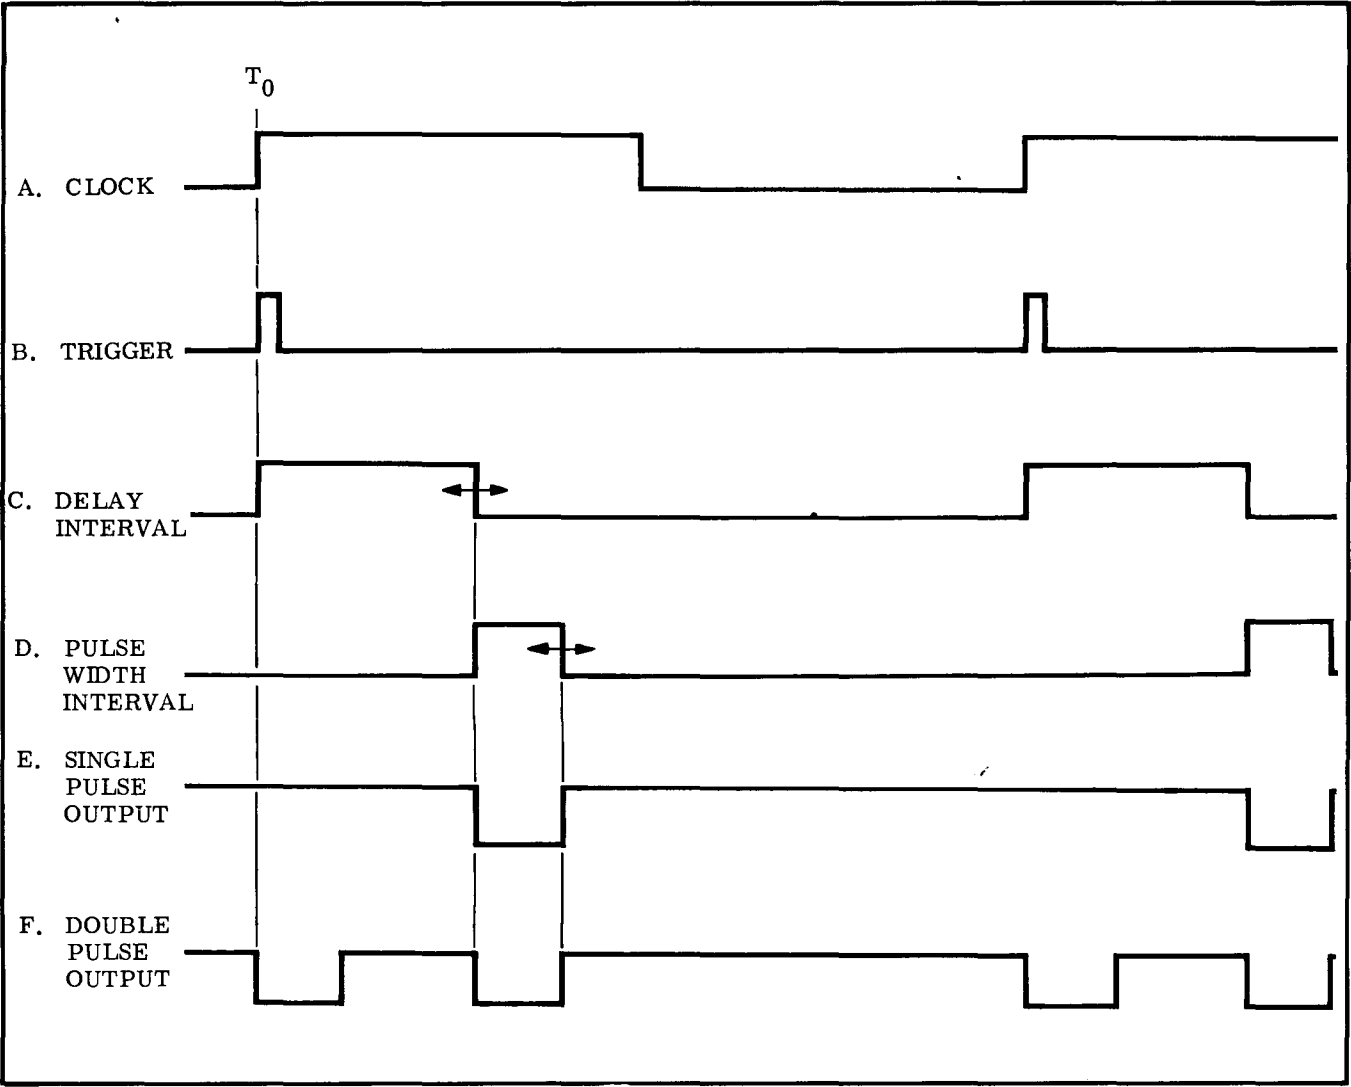

Fig. 3-1 Timing Logic
a. The timing logic in the Model 139B is determined by three multivibrators; the clock multivibrator, the delay multivibrator, and the width multivibrator. Each of the three multivibrators have independently variable periods determined by panel-mounted controls. The relationship of the three multivibrators is illustrated by waveforms A, C, and D of Fig.3-1.
When the **PULSE MODE** switch is in the **DOUBLE** position, the pulse width multivibrator is keyed at the beginning of the delay interval as well as at the end of the delay interval. See waveform F of Fig.3-1.